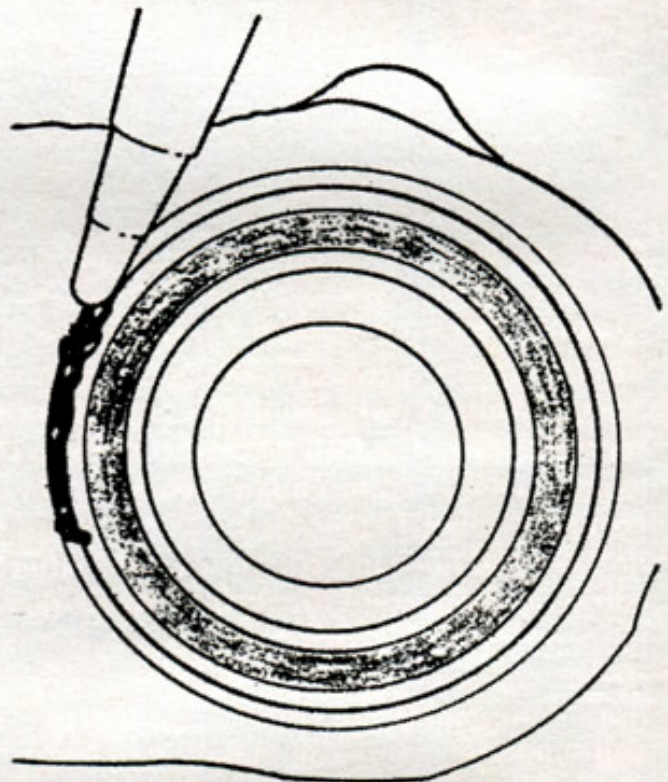

FIGURE 2
9. Depress pistons and, while holding in a depressed position, place a bead of silastic sealant (P/N 1052366) or equivalent on the outer diameter of boot retaining ring (see Figure 2) forming a seal between ring and housing.